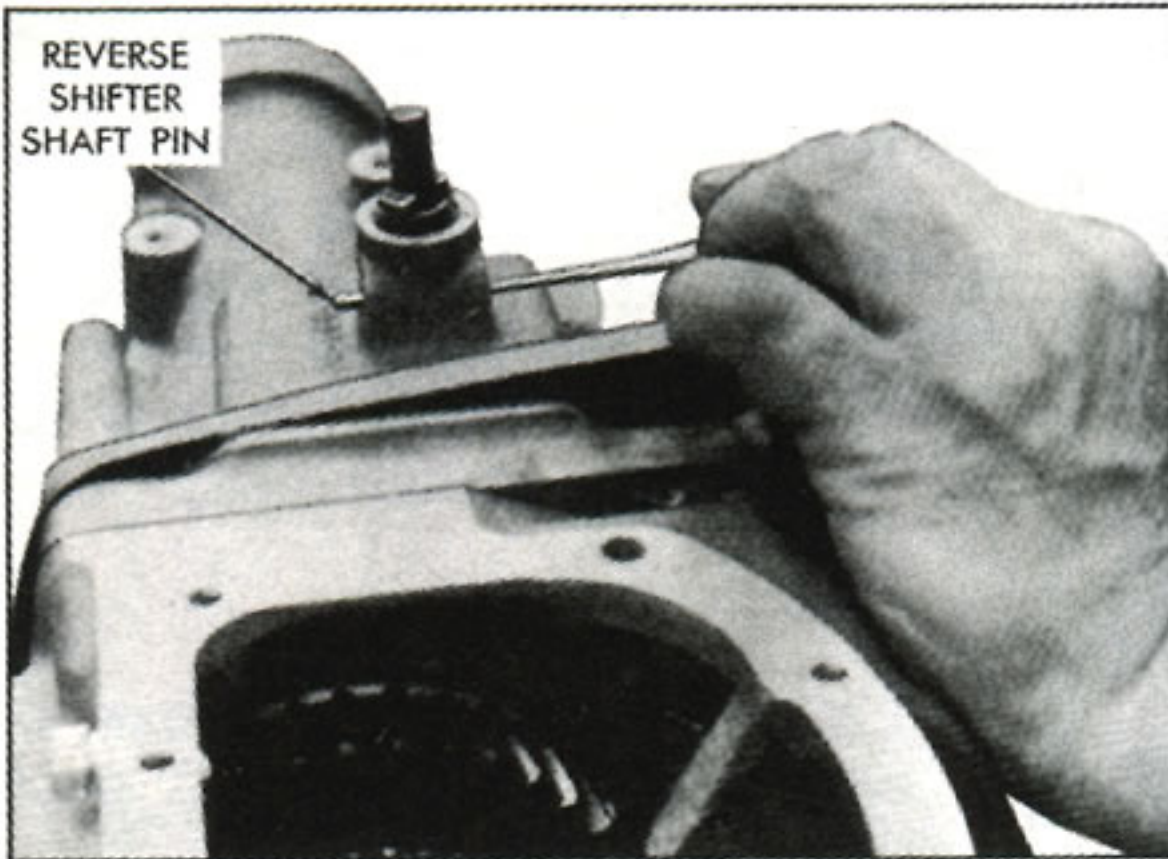

Fig. 1—Removing Reverse Shifter Shaft Lock Pin
3. Remove lock pin from reverse shifter lever boss (Fig. 1) and pull shifter shaft partially out to disengage the reverse shifter fork from the reverse gear.